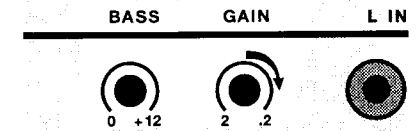

Figure 10: Gain Control
3. Turn the **Gain** control on the M50 towards ".2" until you hear the amplifier distort. The M50 "clips" very softly so this can sometimes be a difficult adjustment. Please listen carefully! (See Figure 10)